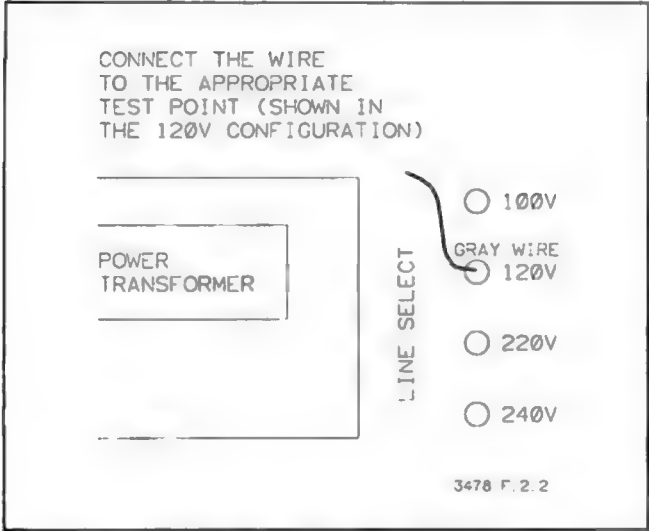

Figure 2-2. Line Select Jumper
- c. Refer to Figure 2-2 and connect the gray wire to the line terminal corresponding to the desired input line voltage.